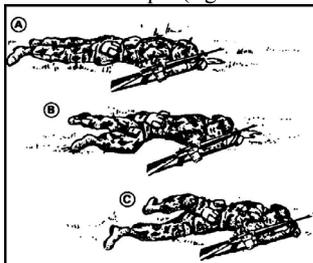

Figure 071-326-0502-3. Low crawl
4. Move using the low crawl technique (figure 071-326-0502-3).